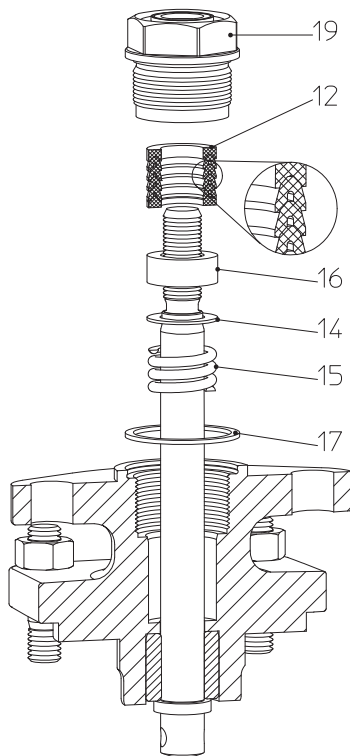
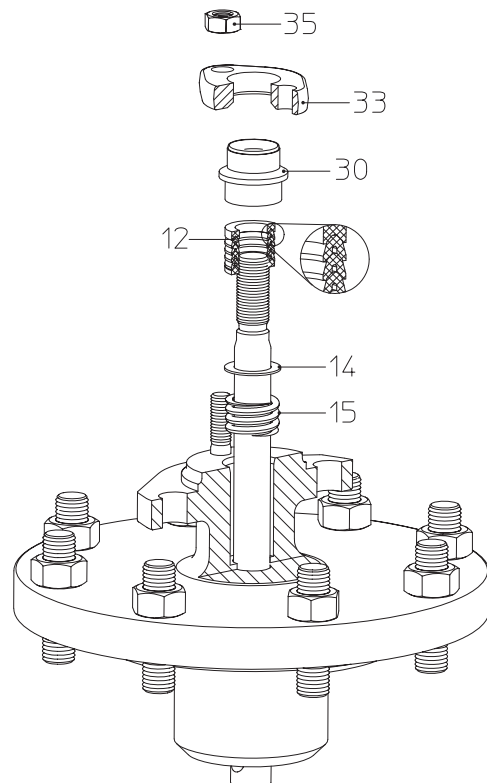

Fig. 8: PTFE V-ring unit DN15-100
Fig. 9: PTFE V-ring unit DN125-150
- When replacing PTFE V-ring unit (pos. 12), make sure that the parts are installed in the correct order and positions (refer to Fig. 8 - Fig. 9).
- DN15-100: Gasket (pos. 17) must be replaced.